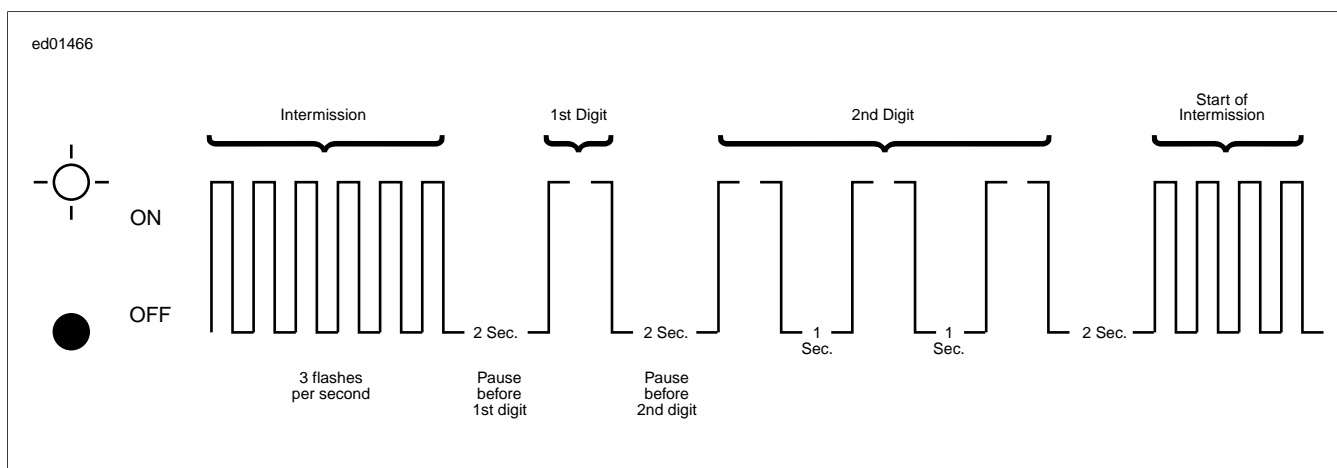

Figure 2-8. Check Engine Lamp Diagnostics
3. See Figure 2-8. All trouble codes are sent out as a series of flashes. To retrieve the first digit of the trouble code simply observe the number of times the check engine lamp flashes.